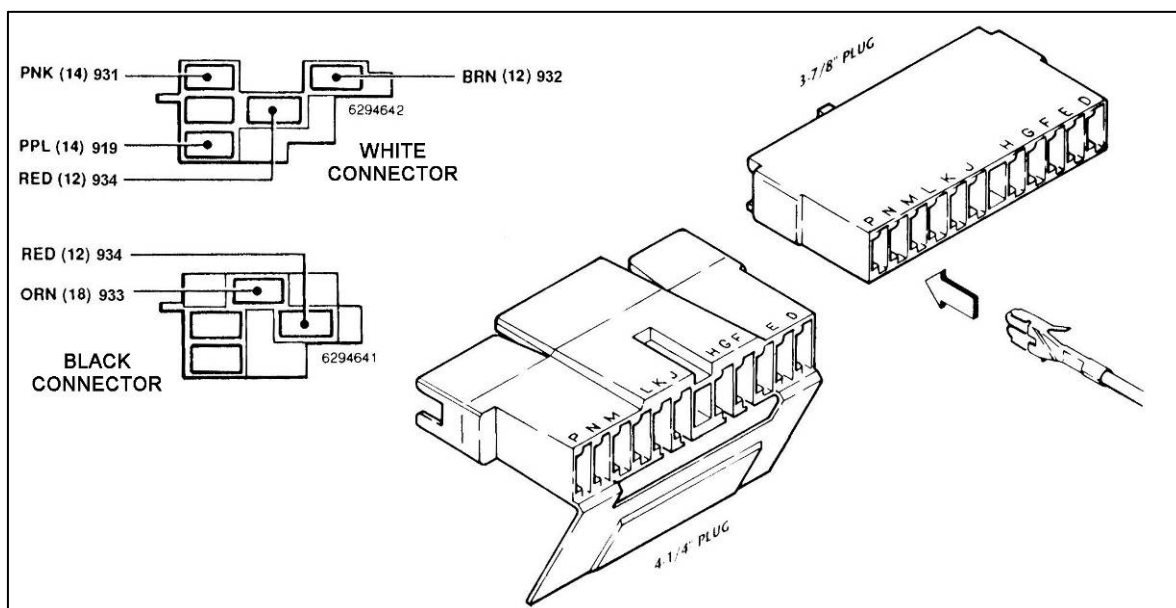

Figure 11-1 GM Turn Signal Connectors
11.1.1 There are two different plugs on most tilt columns. The difference is in the length of the male plug that is mounted ON THE COLUMN. One plug is 3-7/8" (3.875") long and the other is 4-1/4" (4.250"). This is only a difference of 3/8" (0.375"), so measure the plug carefully. The Wire Harness Kit has included two different female connectors to mate with the column-mounted plug. See **Figure 11-1** to determine which female connector is correct for your automobile.
You will need to cut the TURN SIGNAL SECTION wires to length and install the terminals provided. Choose the proper plug and install the terminals according to **Table 11-1**, as shown in **Figure 11-1**. The GM wire color codes have been included for reference. **Note:** *The terminals will only insert into the connector ONE WAY, as shown in Figure 11-1. Make certain you are inserting the wire into the CORRECT LOCATION as the terminals are difficult if not impossible to remove once inserted.*
- 11.1.2** The Steering Column Wiring comes with GM ignition switch connectors pre-wired. See **Table 11-1** and **Figure 11-1** for color codes, wire numbers, and wire designations for the Ignition Switch Connectors.